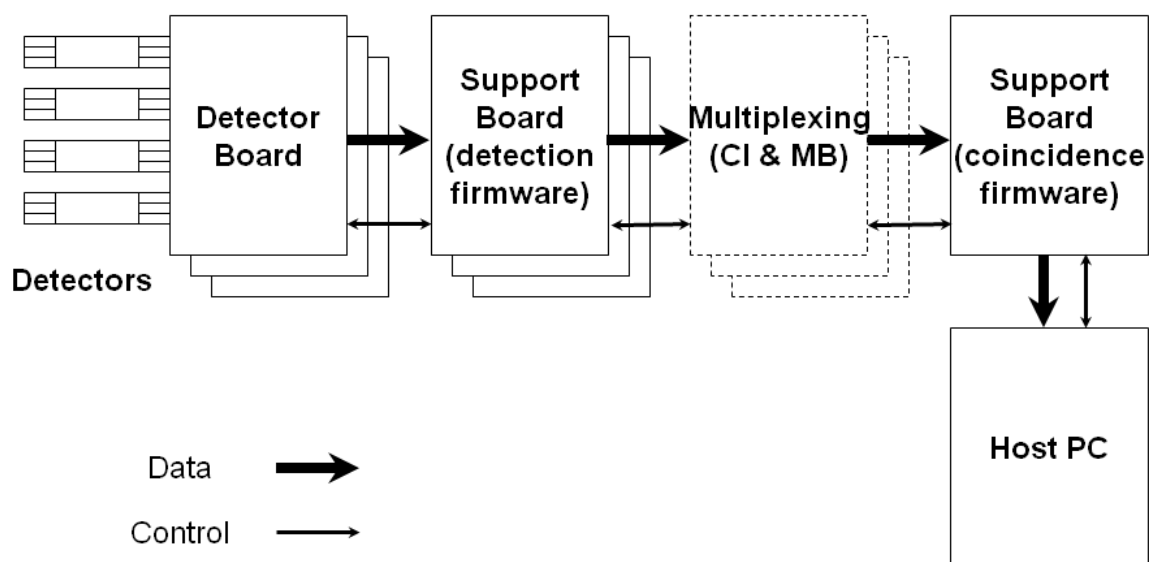

Fig. 3.1: Schematic of the OpenPET system architecture.
The basic system architecture is shown in Fig. 3.1. There are four types of custom electronics boards in the system: the Detector Board (DB), the Support Board (SB), the Coincidence Interface Board (CI), and the Multiplexer Board (MB). The Support Board plays two roles in the system, depending on the firmware.